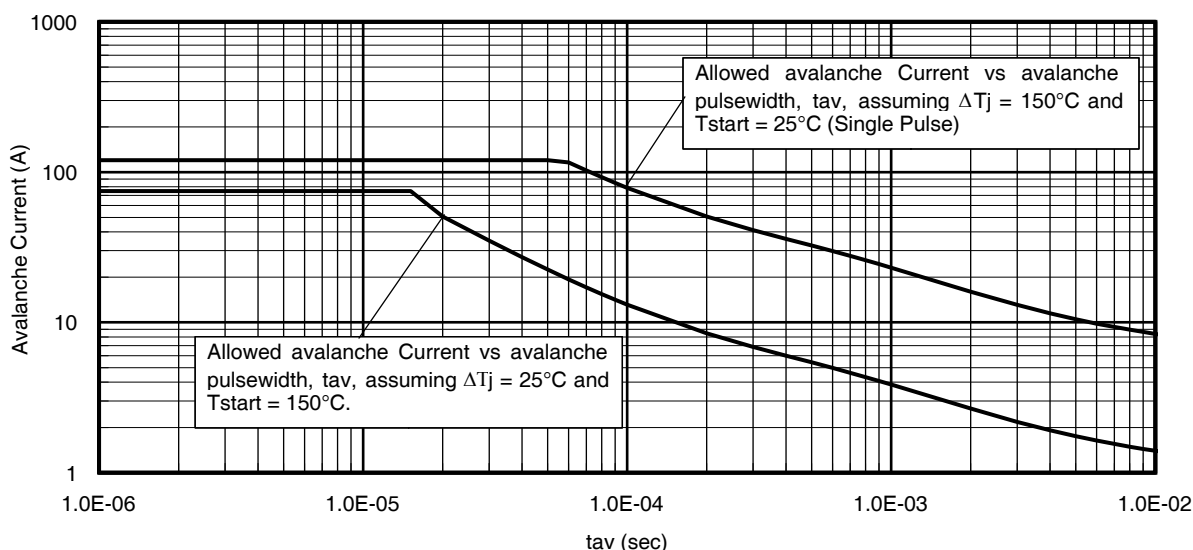

Fig 15. Avalanche Current vs. Pulse Width
Notes on Repetitive Avalanche Curves , Figures 15, 16:
7. ΔT = Allowable rise in junction temperature, not to exceed T_{jmax} (assumed as 25°C in Figure 15, 16).